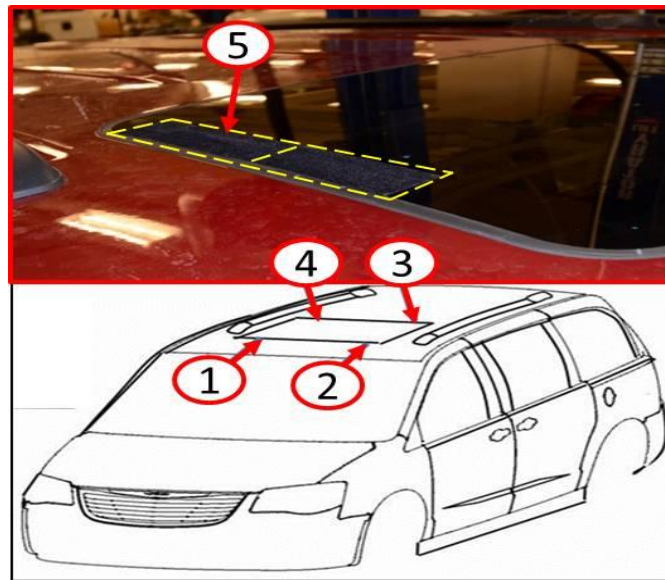

Fig. 1 Apply Tape
1. Adjust sunroof panel flushness along the front of the glass (1)&(2) to 2mm underflush.
Adjust the rear of the sunroof glass panel (3)&(4) to zero/flush (Fig. 1).
2. Apply two pieces of felt/flock tape p/n 05019055AA to each side of the sunroof glass panel. Apply the tape end to end along the side edge of the sunroof glass panel (5) starting at the end of the rear corner radius running forward (Fig. 1).